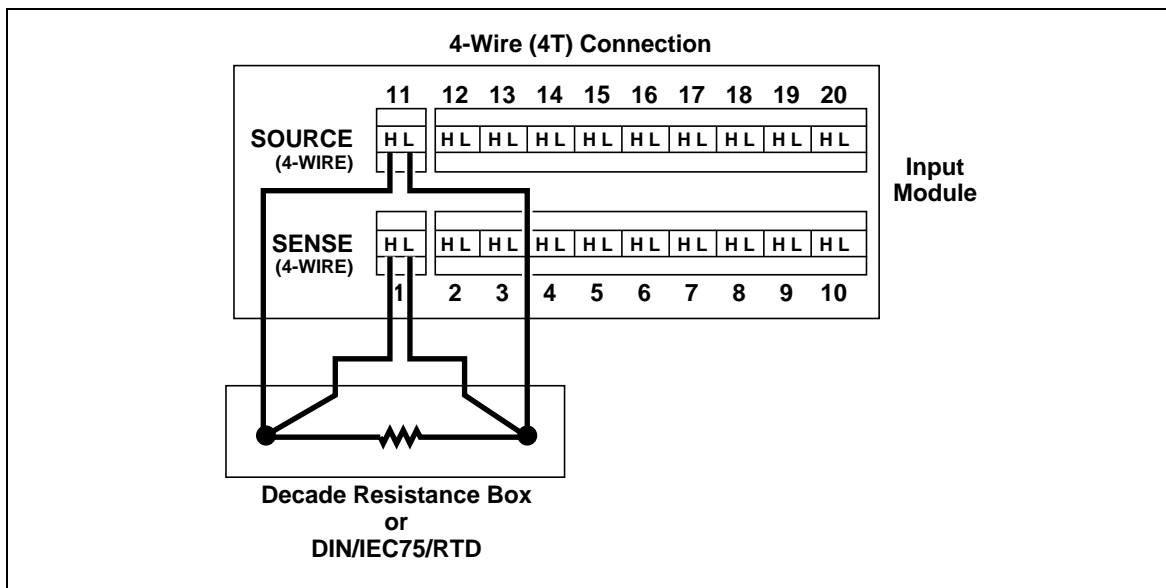
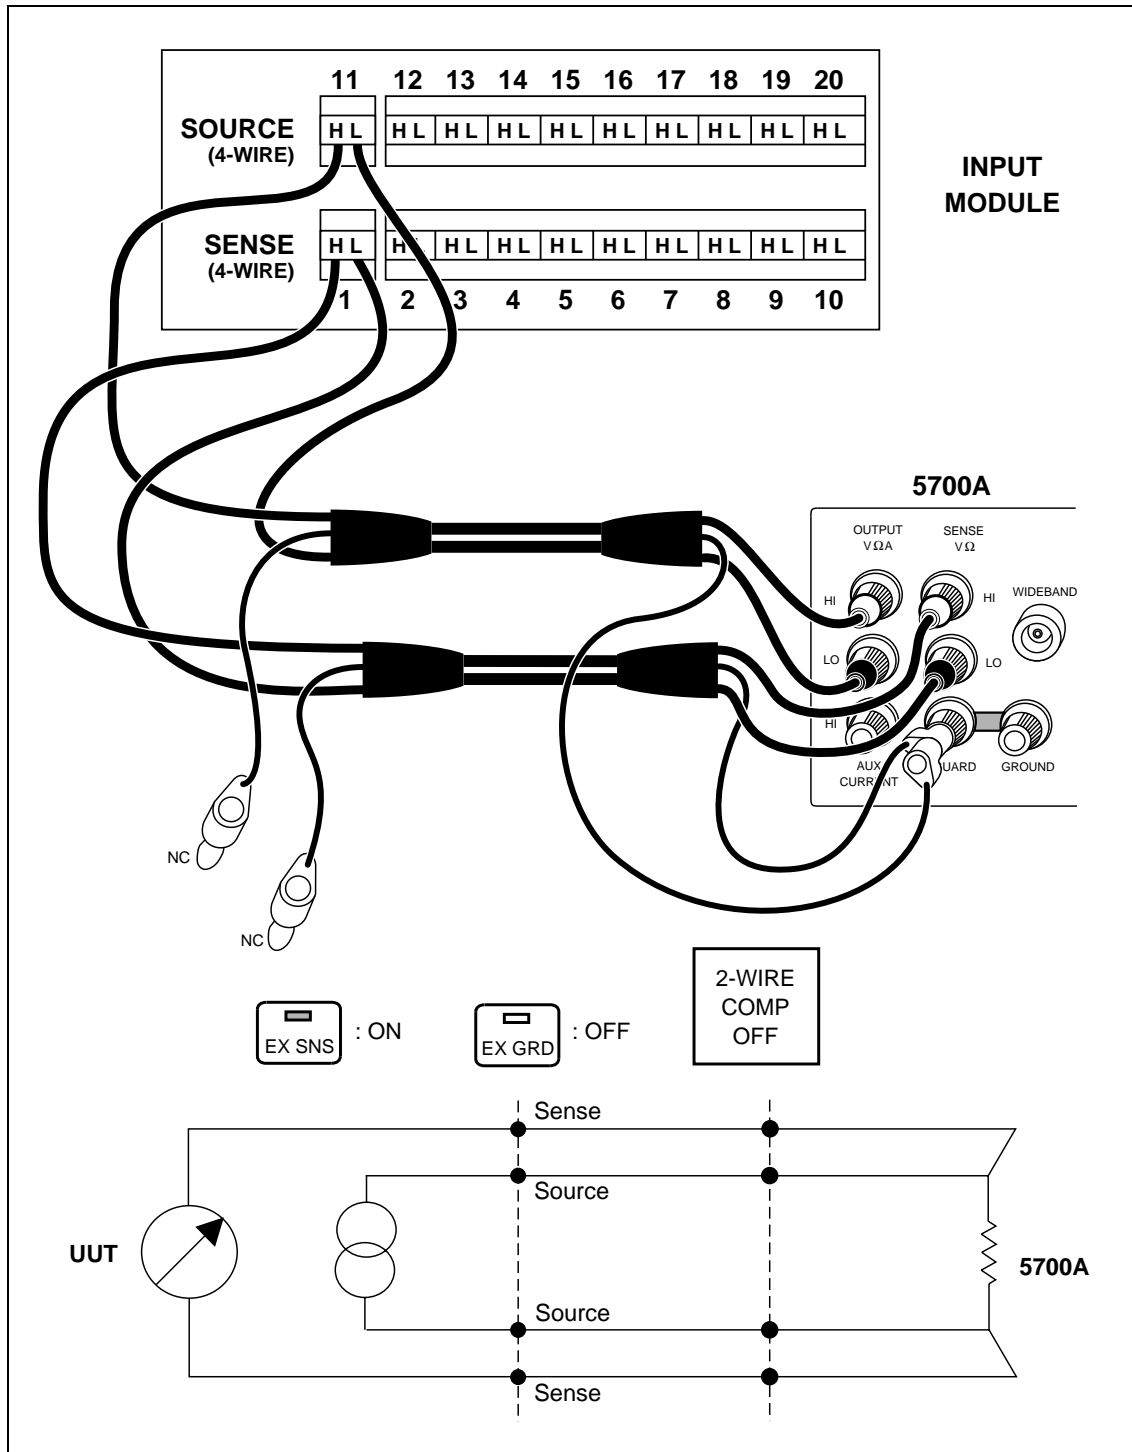

Figure 4-3. Four-Terminal Connections to the Universal Input Module (Resistor)
Figure 4-4. Four-Terminal Connections to the Universal Input Module (5700A)
1. **Connect the Resistance Source to Channels 1 and 11** Remove the Universal Input Module from the instrument and connect a cable from the Decade Resistance Source to the Universal Input Module terminals for channel 1 (Sense) and channel 11 (Source) as shown in Figure 4-3. Reinstall the Universal Input Module. You may also use the 5700A resistance calibration output instead of the Decade Resistance Source. Tables are provided for both connections. Refer to Figure 4-4 for the 5700A four-wire connections.
- Connect the Resistance Source to Channels 1 and 11** Remove the Universal Input Module from the instrument and connect a cable from the Decade Resistance Source to the Universal Input Module terminals for channel 1 (Sense) and channel 11 (Source) as shown in Figure 4-3. Reinstall the Universal Input Module. You may also use the 5700A resistance calibration output instead of the Decade Resistance Source. Tables are provided for both connections. Refer to Figure 4-4 for the 5700A four-wire connections.
The following RTD accuracy test applies to the 2640A and uses the four-wire connection (see Figure 4-3).
1. **Connect the Decade Resistance Source to Channels 1 and 11** Remove the Universal Input Module from the instrument and connect a cable from the Decade Resistance Source to the Universal Input Module terminals for channel 1 (Sense) and channel 11 (Source) as shown in Figure 4-3.
The following RTD accuracy test applies to the 2645A and uses the four-wire connection (see Figure 4-3).
The following RTD accuracy test applies to both the 2640A and 2645A and uses the four-wire connection (see Figure 4-3).
1. **Connect the RTD Source to Channels 1 and 11** Remove the Universal Input Module from the instrument and connect the RTD to the Universal Input Module terminals for channel 1 (Sense) and channel 11 (Source) as shown in Figure 4-3.